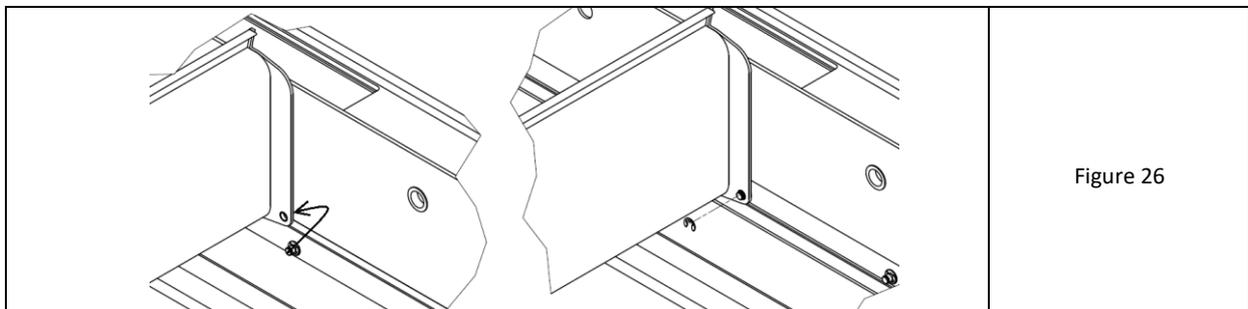

Figure 26
9. Raise the linkage to the level of the lower hole in the pen drive cap and apply it from the outside (between the cap and the bar) to the side of the drive cap (fig. 26-left).
10. Press the protruding end of the tie rod pin into the hole of the pen cap (fig. 26-right). When pressing in, take care not to push the slip ring out of the cap.
11. Secure the visible end of the pressed-in pin with a small circlip exactly in the extreme groove of the pin - use a dedicated tool (fig. 26-right).